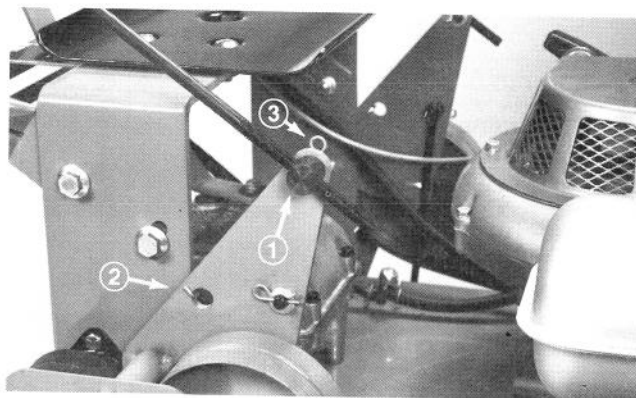

Figure 5
1. Thread a rod fitting onto each control rod approximately 2" (Fig. 5).
2. Insert rod fitting ends into mounting holes in idler brackets (from outside) and secure with washers and hairpin cotteners (Fig. 5).